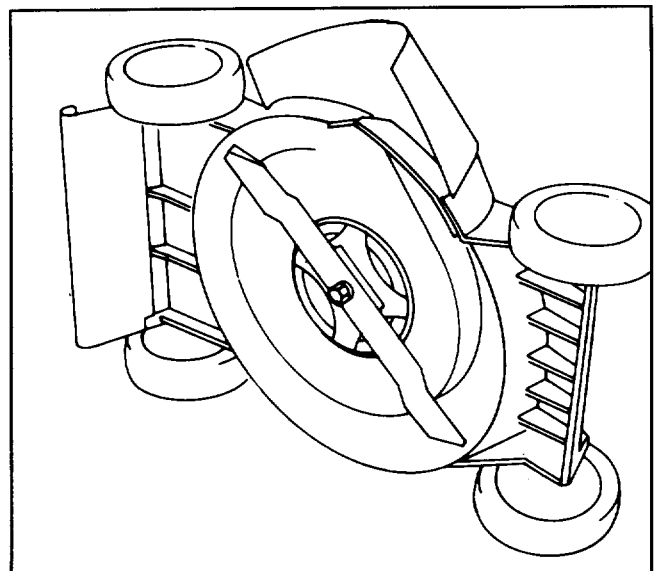

Figure 19
2. Tip mower on its left side (Fig. 19).